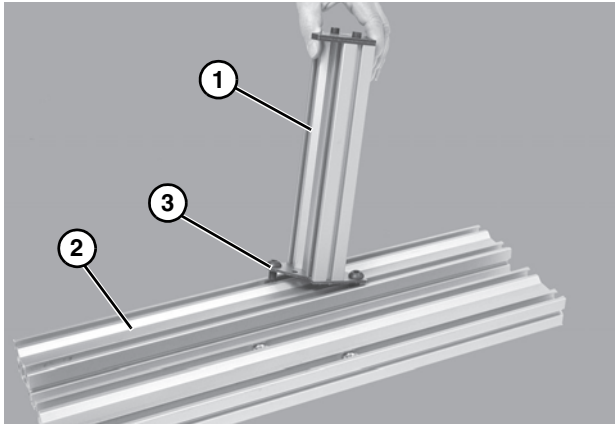

Figure 5
- Attach crossmember (Figure 5, item 1) to stand leg (Figure 5, item 2) with button screws (Figure 5, item 3). Do not tighten.
- Repeat step 4 for opposite stand leg. Make sure to locate the red warning area (Figure 3, item P) on the same ends of stand legs (Figure 5, item K).